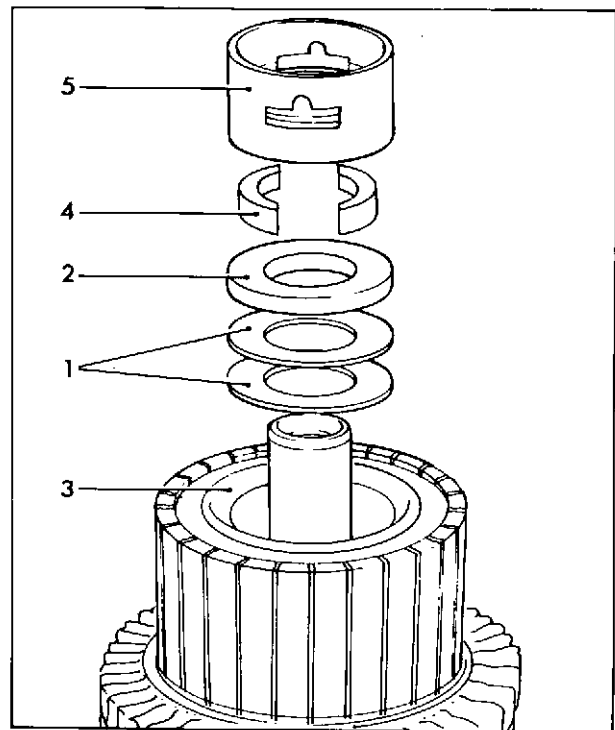

Fig. 23 Replacing armature shaft
4. Smear the original shims (1) fig. 23 and thrust washer (2) with grease and insert, in correct order, into the commutator sleeve (3). Ensure that the shaft is fully home by applying slight downward pressure and fit keys (4) into the annular groove of the shaft.
6. Fit the assembled recoil unit (5) into the armature sleeve ensuring that the bore in the lower part locates over the two keys.